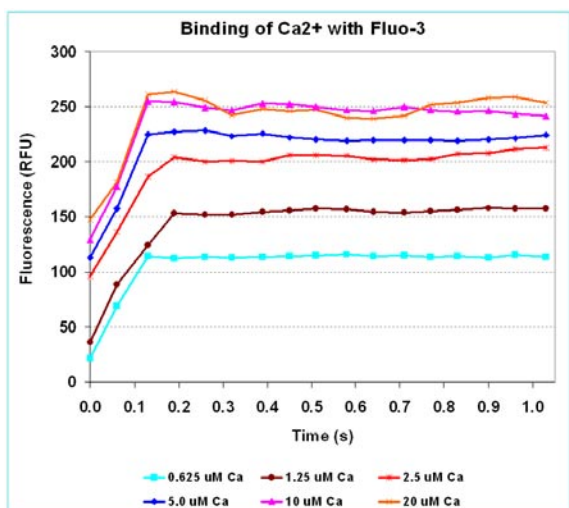
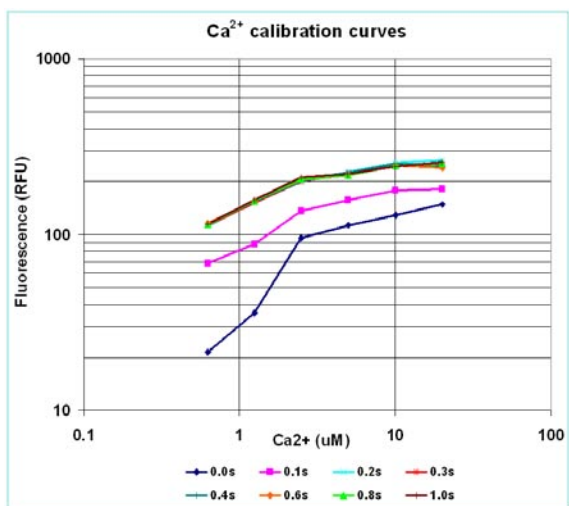

Figure 5. Kinetic fluorescence curves of Ca^{2+} /Fluo-3 complexes with different Ca^{2+} concentrations.
Figure 6. Calibration curves of Ca^{2+} /Fluo-3 complexes with different time points.
Linearity of Ca^{2+} /Fluo-3 binding was tested by adding 100 μl of Fluo-3 solution into Ca^{2+} solutions with different concentrations (100 μl) with the selected dispenser speed setting (18). Kinetic fluorescence curves of this test are shown in Figure 5. Ca^{2+} calibration curves collected from the different time points are shown in Figure 6. Figures 5 and 6 clearly show that the selected dispensing speed is suitable for the assay. A constant signal is achieved after 0.15 seconds and the expected dose response of Ca^{2+} concentration is easily detected. As shown by Figure 6 there is no change in the calibration curve after 0.2 seconds but the calibration curves obtained before that time are clearly different from the others.